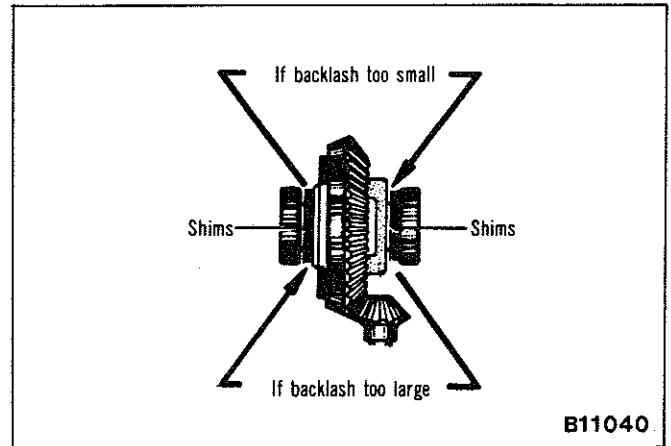
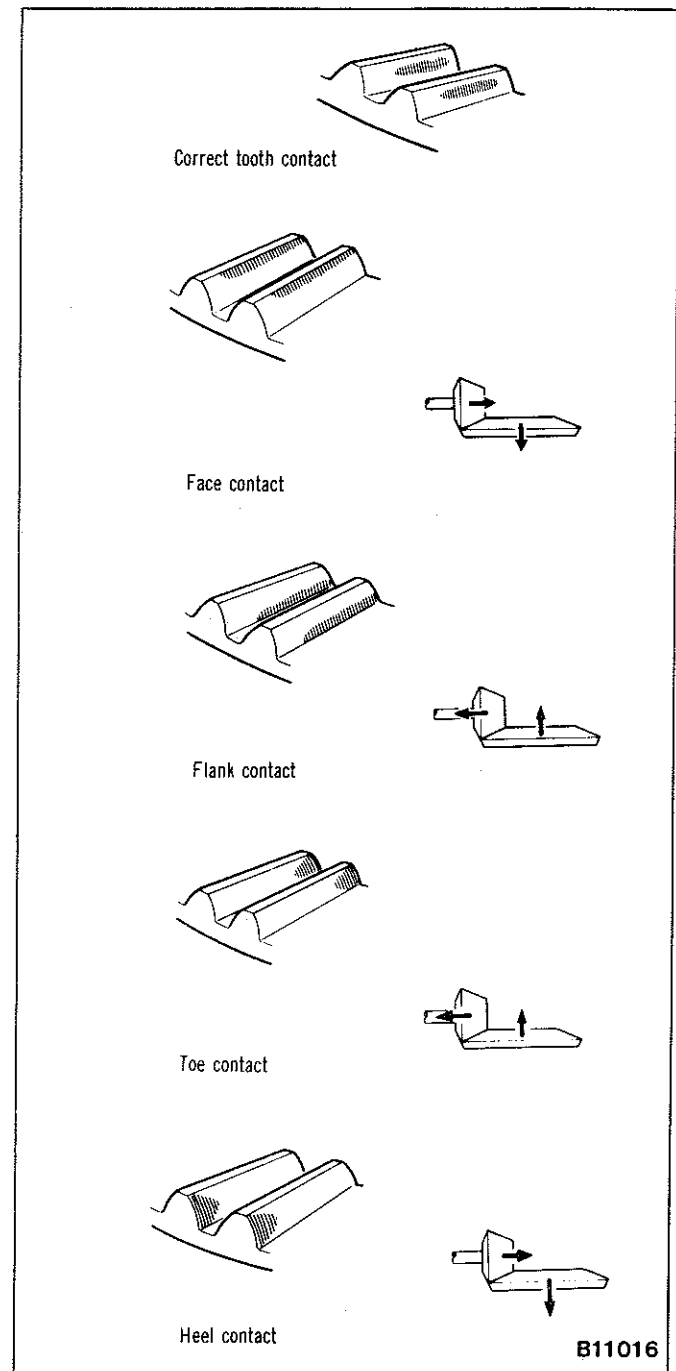

Fig. 27—Adjustment of side bearing shims
Fig. 29—Gear tooth contact pattern
(16) Apply a thin film of red or white lead on both the drive and coast side of the crown wheel teeth. Rotate crown wheel one complete revolution in both directions while prying with a round bar or screw driver between the housing and differential case flange. This action creates a load and produces a distinct tooth contact pattern on the crown wheel teeth.
(17) Observe the contact pattern on the crown wheel teeth and compare with those in Fig. 29 to determine if pattern is properly located. If pinion depth of mesh and gear backlash are correct, the heaviest most distinct part of contact pattern should be centred on both drive and coast sides of the crown wheel teeth.
(18) If the tooth contact pattern resembles Fig. 29, Face contact or Heel contact, the thickness of the shim between the pinion and rear bearing should be increased to move the pinion towards the crown wheel centre line. The crown wheel must be moved to maintain the specified backlash, refer Fig. 27.
(19) If the tooth contact pattern resembles Fig. 29, Flank contact or Toe contact, the thickness of the shim between the pinion and rear bearing should be decreased to move the pinion away from the crown wheel centre line. The crown wheel must be moved to maintain the specified backlash, refer Fig. 27.
(20) If the correct pattern cannot be obtained with the above adjustments, the gear teeth are extensively worn and both crown wheel and pinion must be replaced.
(21) When correct tooth contact pattern is obtained, install the gear carrier with a new gasket and tighten the retaining nuts to the specified torque.
(22) Install the propeller shaft and axle shafts as previously described, fill the axle with the correct grade and quantity of gear lubricant.